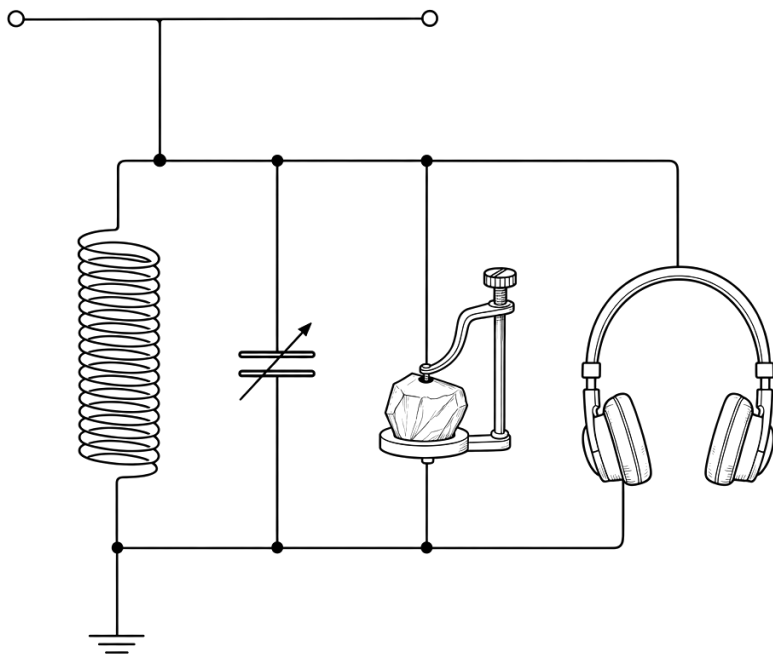

Figure 4.4. Full bleed: the figure takes its own page.
- 4.2 **Figure 4.4.** Full bleed: the figure takes its own page. . . . 12